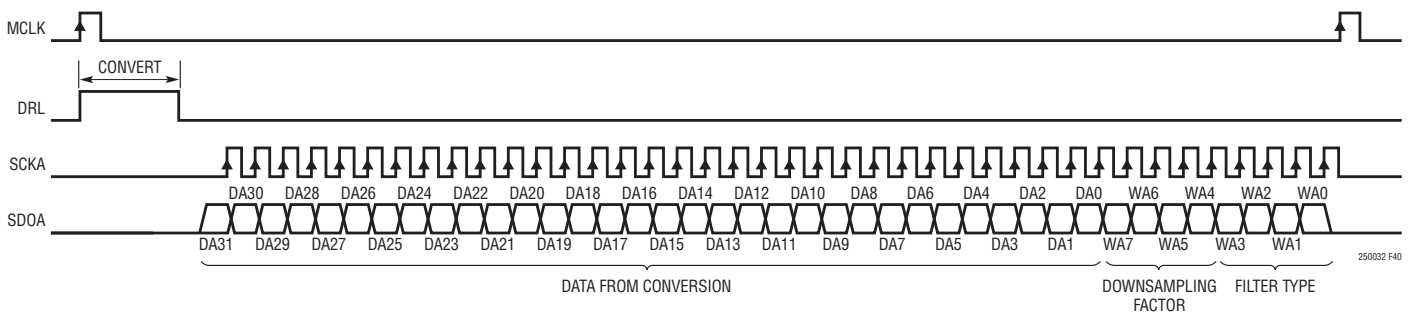

Figure 40. Filtered Output Data Formatting
An 8-bit configuration word, WA[7:0], is appended to the 32-bit output code on SDOA to produce a total output word of 40 bits as shown in Figure 40. The configuration word designates the downsampling factor (DF) and filter type the digital filter is configured to operate with. Clocking out the configuration word is optional. Table 3 lists the configuration summary for different filter types and downsampling factors.